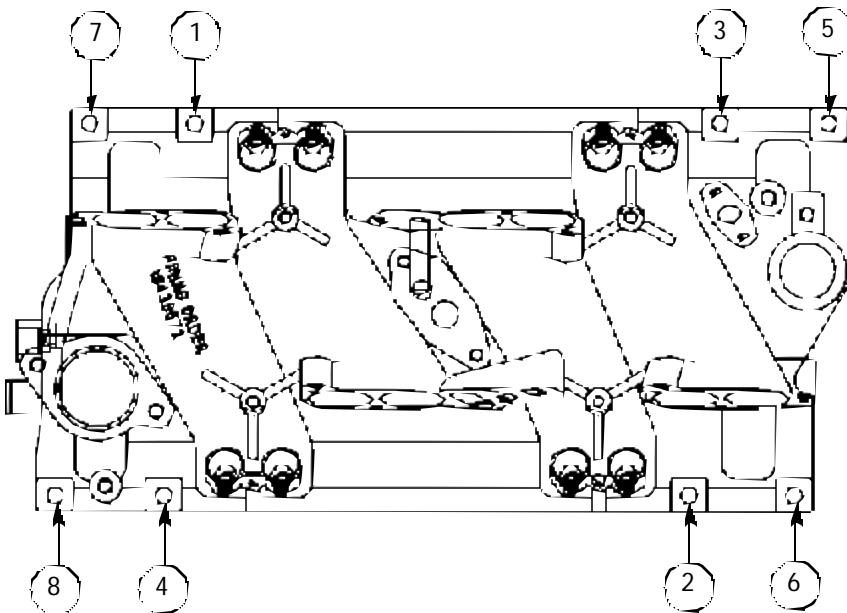

Figure 2 - Intake Manifold Tightening Sequence
1. Install baseplate on engine and replace all connections. See *Figure 2* for proper bolt tightening sequence and torque all circled bolts to 11 ft./lbs. *NOTE: On 1990 & later engines, only two of the three pipe threaded holes on the front of the baseplate are used. Plug the extra hole with one of the supplied pipe plugs.*
Torque all bolts circled in *Figure 2* to 11 ft./lbs. See *Figure 2* for proper sequence.